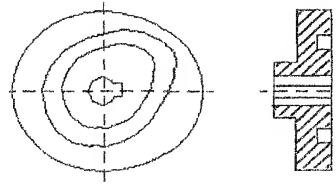
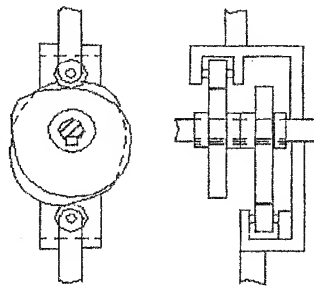

Figure 6-4 Grooved cam
Figure 6-6 Constant diameter cam
2. Grooved cam or closed cam (Figure 6-4):
A groove maintains positive action. (Figure 6-4 and Figure 6-5a) For the cam in Figure 6-6, the follower has two rollers, separated by a fixed distance, which act as the constraint; the mating cam in such an arrangement is often called a *constant-diameter cam*.